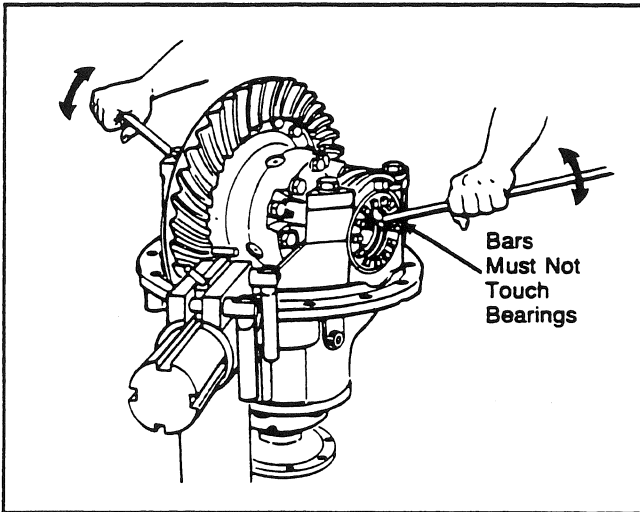

Fig. 67
- a) Use two pry bars installed between the adjusting rings and ends of the differential case. The pry bars must not touch the differential bearings (see Fig. 67).